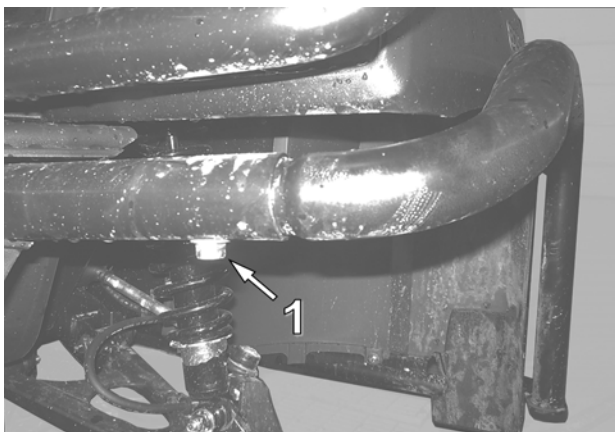

Fig. 24
- Remove the mounting bolt (1) that attaches the fender guard to the front bumper. See Fig. 24.